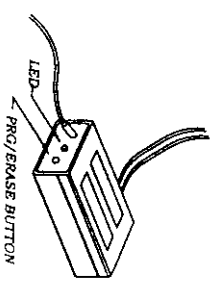

Figure 5-1
1. \* LOCATE the receiver PRG/ERASE button. (Figure 5-1)